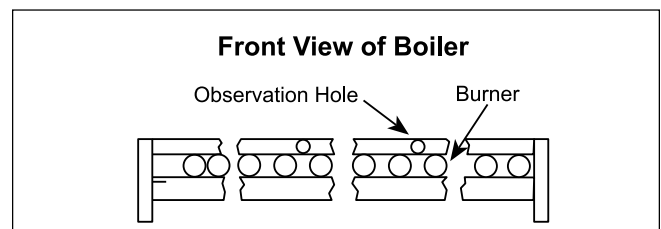

Figure 15. Periodic Flame Observation.
1. If a strainer is employed in a pressure reducing valve or in the piping, clean it every six (6) months.
2. At start-up and every six (6) months thereafter, the pilot and main burner flame should be observed for proper performance (see Figures 15 and 16; see attached lighting and shutdown